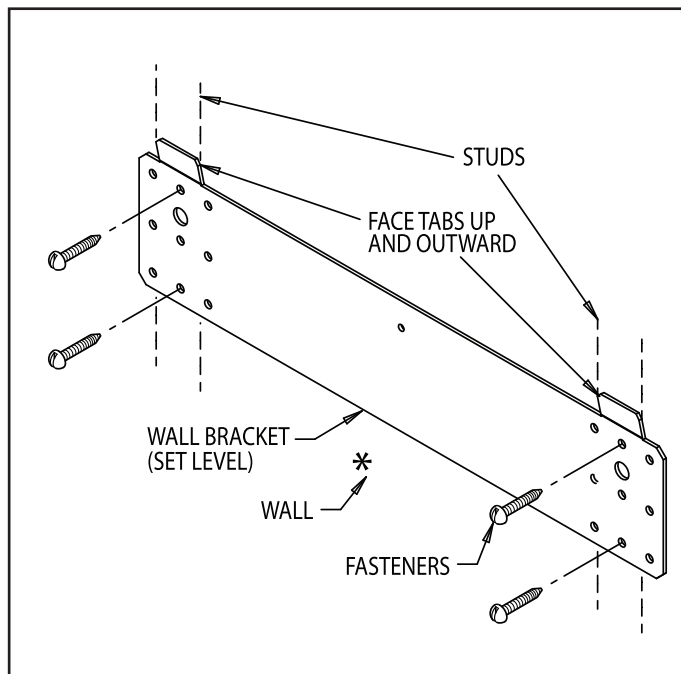

Figure 4a. Wall bracket securement
- Provide a solid, level foundation or vertical wall capable of supporting the weight of the boiler filled with water, and extending at least 2" past the jacket on all sides. See dimensions of boilers, page 2. See also figure 4a & 4b for mounting the boiler on the wall.
Be sure that there are studs available in the proper locations, for securing the boiler wall bracket and back panel. (See Figures 4a and 4b).
#### **A. INSTALL THE WALL BRACKET. SEE FIGURE 4a.**